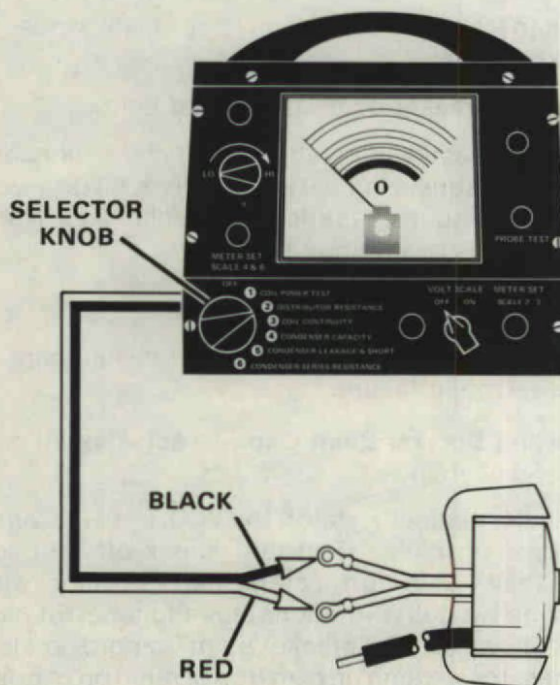

Figure 39. Testing Coil Continuity. Test #1.
- Connect small red test lead to either primary terminal. Connect small black test lead to remaining primary terminal. Figure 39.